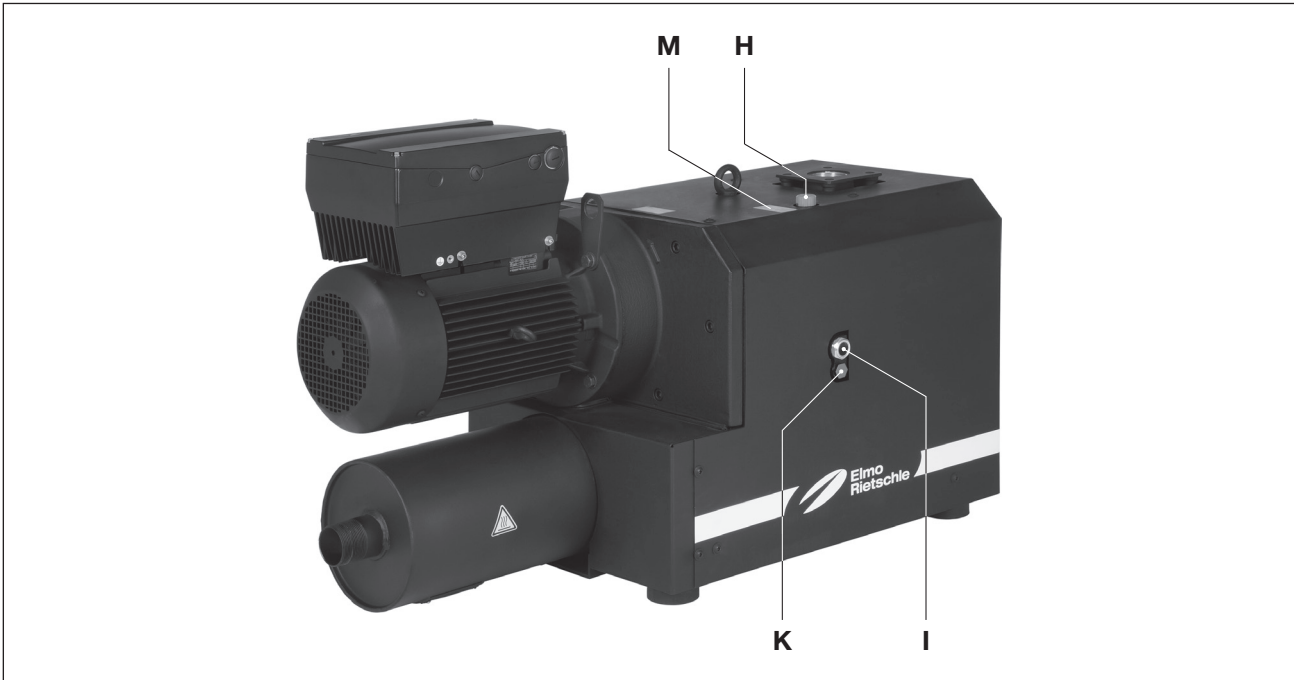

Fig. 6 Changing the oil
The **oil level** in the sight glasses (Fig. 6/l) must be checked.
The oil level in the sight glasses (Fig. 6/I) must be checked every month.
*We recommend the following oil brand: GEAR-LUBE 150 or equivalent oils by other manufacturers (also see oil recommendation plate (Fig. 6/M)).*